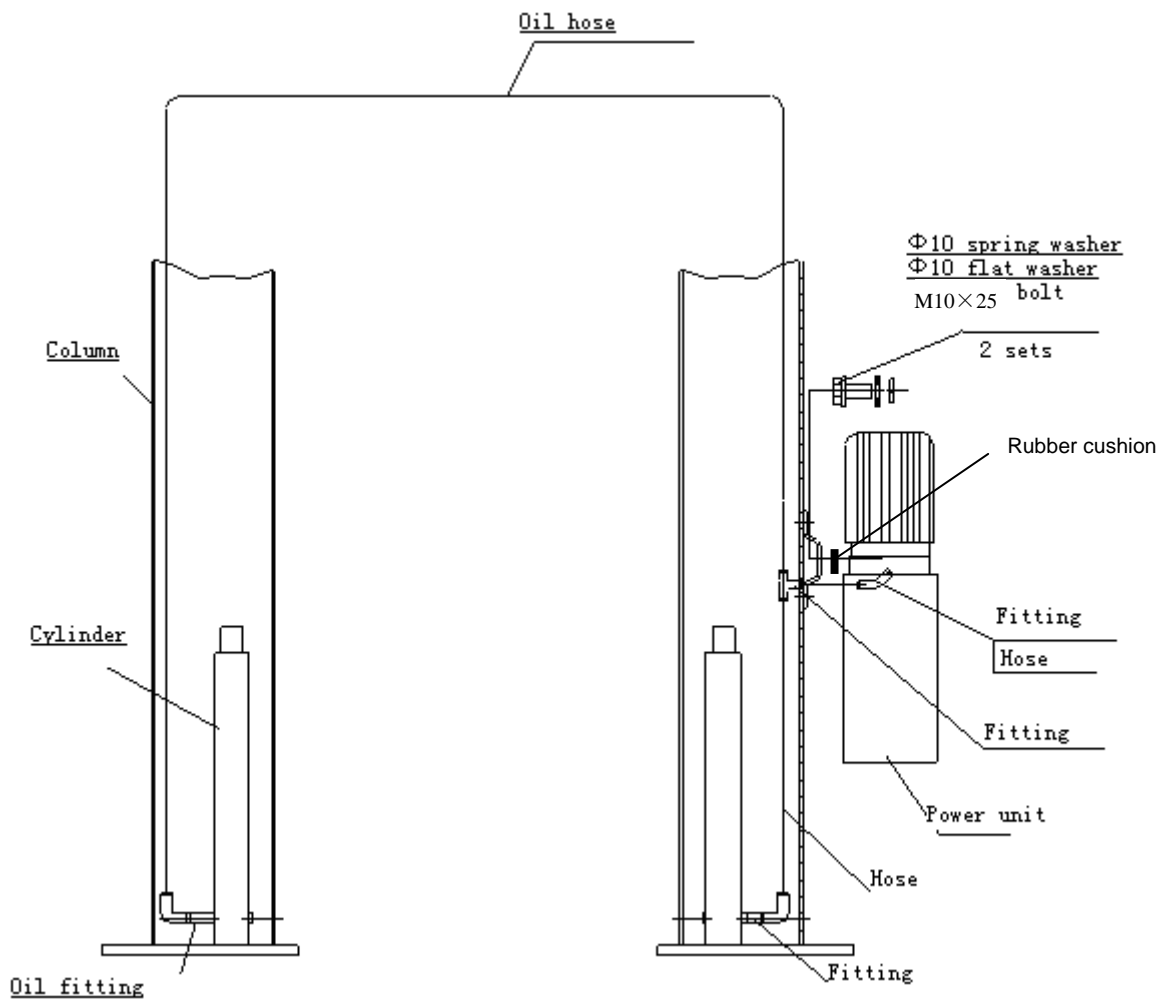
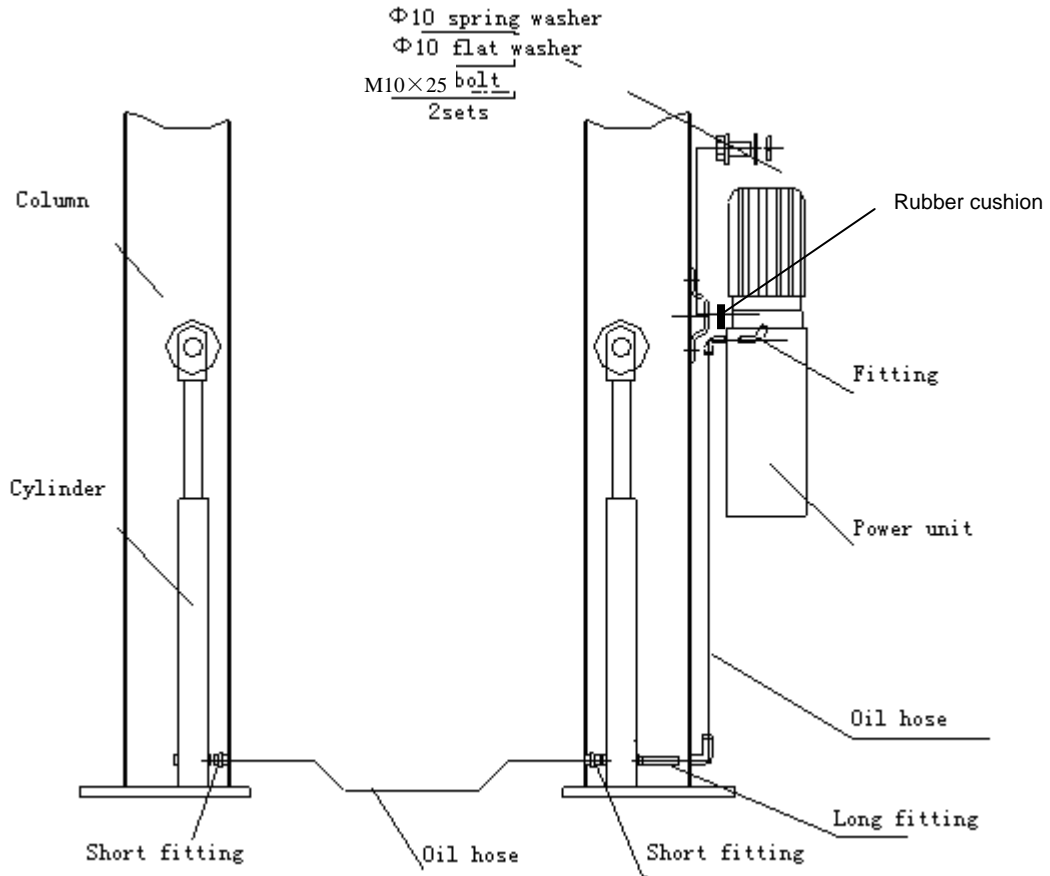

Fig. 14a
Fig. 14b
- Use two M10 bolts and washers to fix the power unit (as shown in Fig. 14a、14b). for TLT235SC、TLT240SC、TLT235SC (U) models, install the hydraulic line as shown in Fig. 14a, for TLT235SB、TLT240SB models, , install the hydraulic line as shown in Fig. 14b and tighten all the fittings to